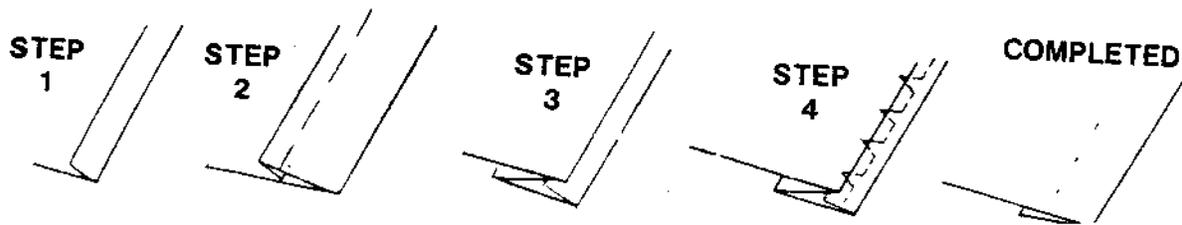

Fig. 37
- Step 1. (Fig. 37). If hem with folded edge is used make first fold $\frac{3}{8}$ " deep.